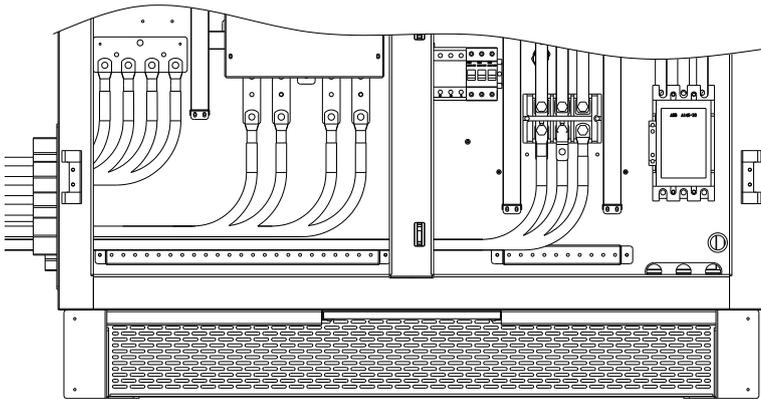

Figure 3-13 Wiring from the left side
- (f) Put the cables through steel conduits to connect to the inverter, as shown in Figure 3-13;